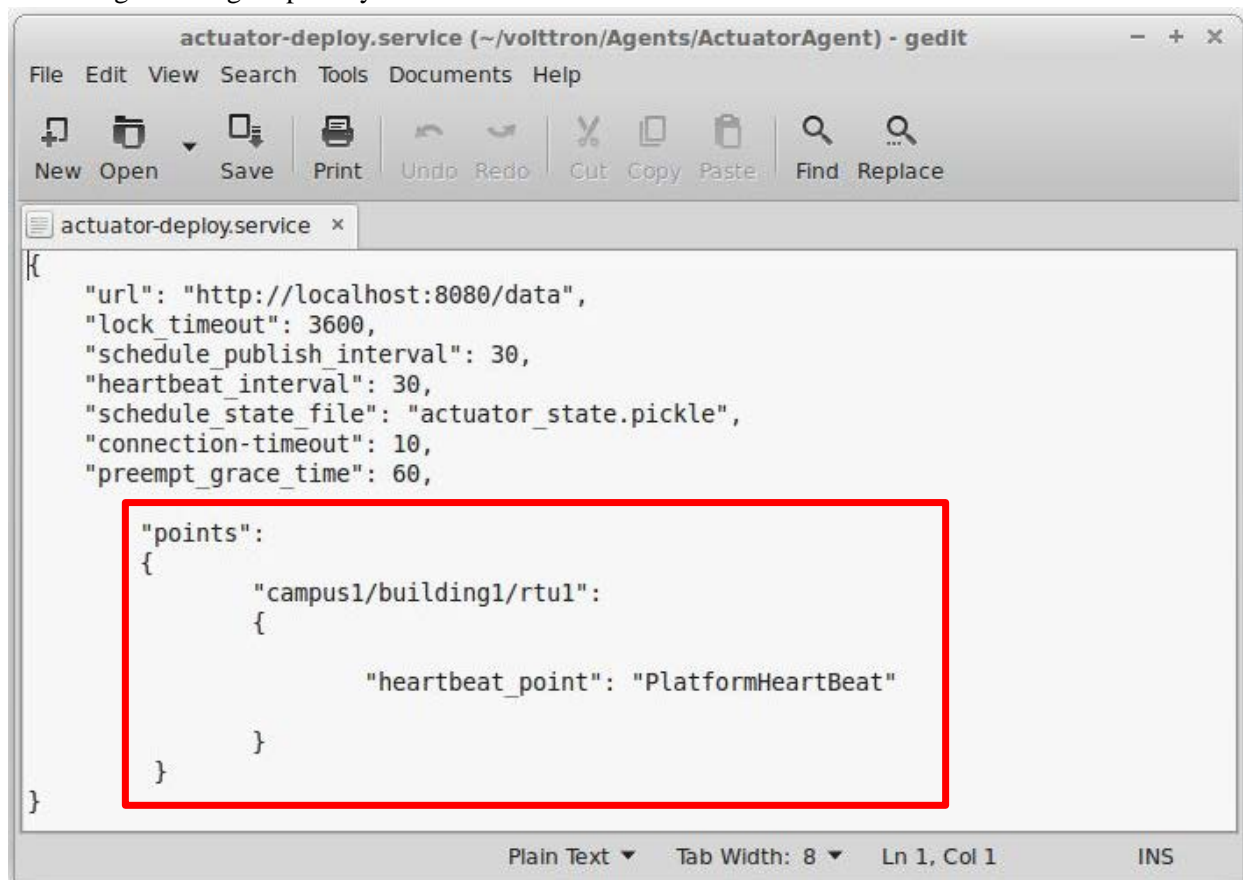

Figure 30: Example Actuator Agent Configuration File
Before launching the Actuator agent, we must create or modify the Actuator agent's configuration file (Figure 30). Preemptible, as used in the context of describing device interaction scheduling with the Actuator agent means that one agent, the preempted agent, will give up access to a device to allow another agent of higher priority to interact with the device.
The configuration parameters shown in Figure 30 are defined as follows:
- The parameters shown in the red box (in Figure 30) are related to a device heartbeat. This is a register on the control device that the Actuator agent toggles to indicate proper communication with the platform has been established. The fields in red should be left blank unless your device has this register setup.